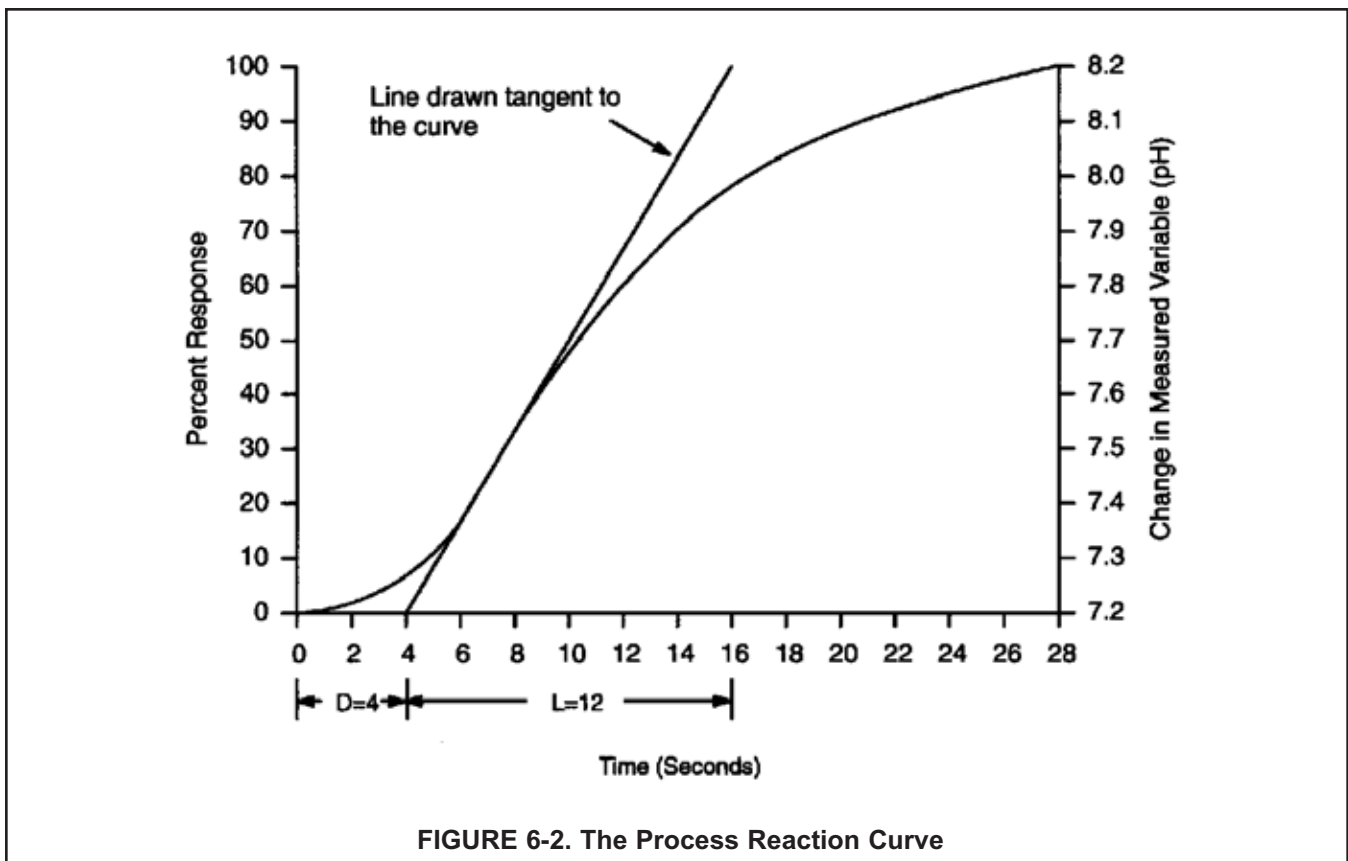

FIGURE 6-2. The Process Reaction Curve
The process reaction curve graphically shows the reaction of the process to step change in the input signal. Figure 6-2 shows an example of a tuning process for a pH controller. Similar results can be obtained for the conductivity controller.
The change in the measured variable (conductivity, pH, or millivolts) will be graphed as shown in Figure 6-2.
- The reaction of the system, when graphed, will resemble Figure 6-2, showing a change in the measured variable over the change in time. After a period of time (the process delay time), the measured variable will start to increase (or decrease) rapidly. At some further time the process will begin to change less rapidly as the process begins to stabilize from the imposed step change. It is important to collect data for a long enough period of time to see the process begin to level off to establish a tangent to the process reaction curve.
A line is drawn on the process reaction curve tangent to the curve at point of maximum rise (slope) as shown in Figure 6-2. The Time Delay (D), or lag time, extends from "zero time" on the horizontal axis to the point where the tangent line intersects the time axis. The Response Time period (L), extends from the end of delay period to the time at which the tangent line intersects the 100% reaction completion line representing the process stabilization value. The ratio (R) of the Response Time period to the Time Delay describes the dynamic behavior of the system.
In the example shown in Figure 6-2: